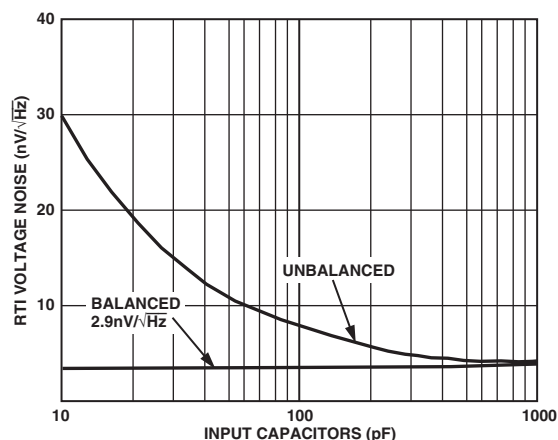
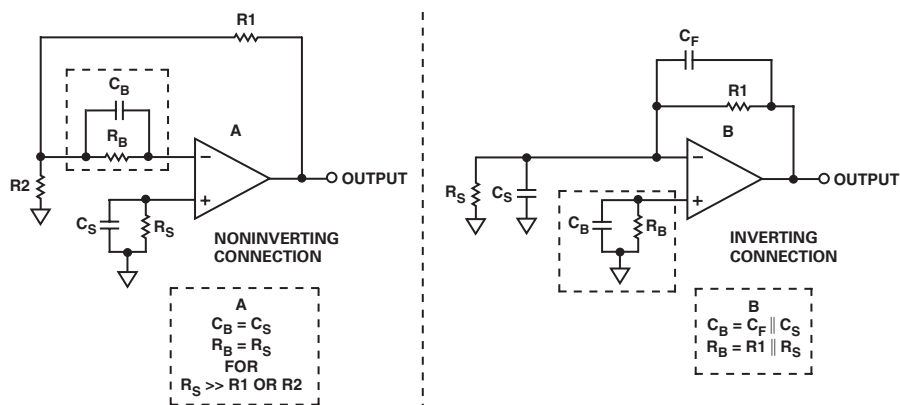

Figure 16. RTI Voltage Noise vs. Input Capacitance
Figure 17. Optional External Components for Balancing Source Impedances
As mentioned previously, it is good practice to balance the source impedances (both resistive and reactive) as seen by the inputs of the AD743. Balancing the resistive components will optimize dc performance over temperature because balancing will mitigate the effects of any bias current errors. Balancing input capacitance will minimize ac response errors due to the amplifier's input capacitance and, as shown in Figure 16, noise performance will be optimized. Figure 17 shows the required external components for noninverting (A) and inverting (B) configurations.